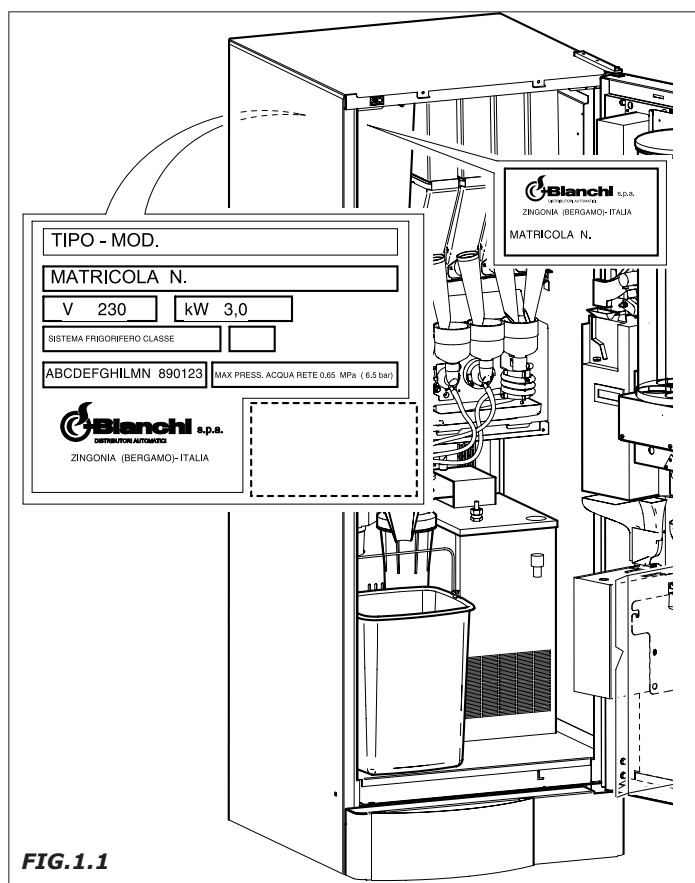

FIG.1.1
- *The data registered on the serial number label (Fig.1.1)*